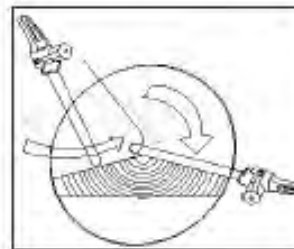

Fig.6
2. When diameter of wood being cut is greater than the bar length, make 2 cuts as shown (Fig. 6).